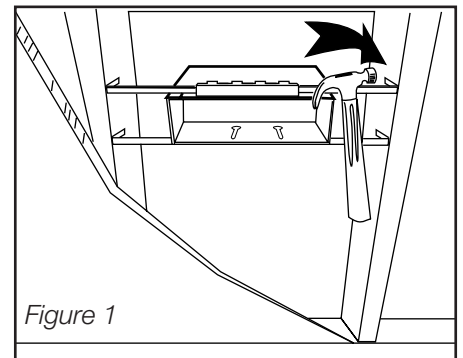

Figure 1
Step 3. Extend bar hangers to fit between joists. (Figure 1) Position fixture temporarily by hammering nail-in tabs into studs. Secure permanently into studs with appropriate fastener (not included).